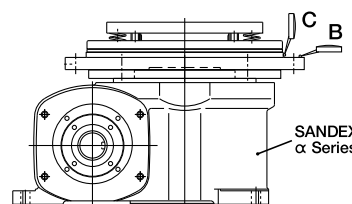

Figure 3
- 1) Make sure that installing surfaces of spigot part A of the torque limiter, drive hub ⑧, and drive flange ⑨ have no scratch or burr.
- 2) Loose set bolts ①. Remove torque adjusting nut ②, 8 pieces of coil spring ③. Then remove pressure ring ④, which includes torque plate ⑤, ball bearing ⑥, and stop ring ⑦. Installation holes will be observed. At this moment, please DO NOT loosen the bolts for fixing thrust washer ⑪. Loosening the bolts for fixing will cause of improper function of the torque limiter. The grease has been already applied, so dust must be kept away from it.
- 4) Set the dial gauge as it touches the surface of drive flange ⑨, measure run-out B. Set the gauge at spigot of flange circular surface, and measure run-out (C). While adjusting the unit as both values of run-out (B) and (C) are within allowance values shown below, fix the unit at final position by tightening the bolts. (See Figure 3.)